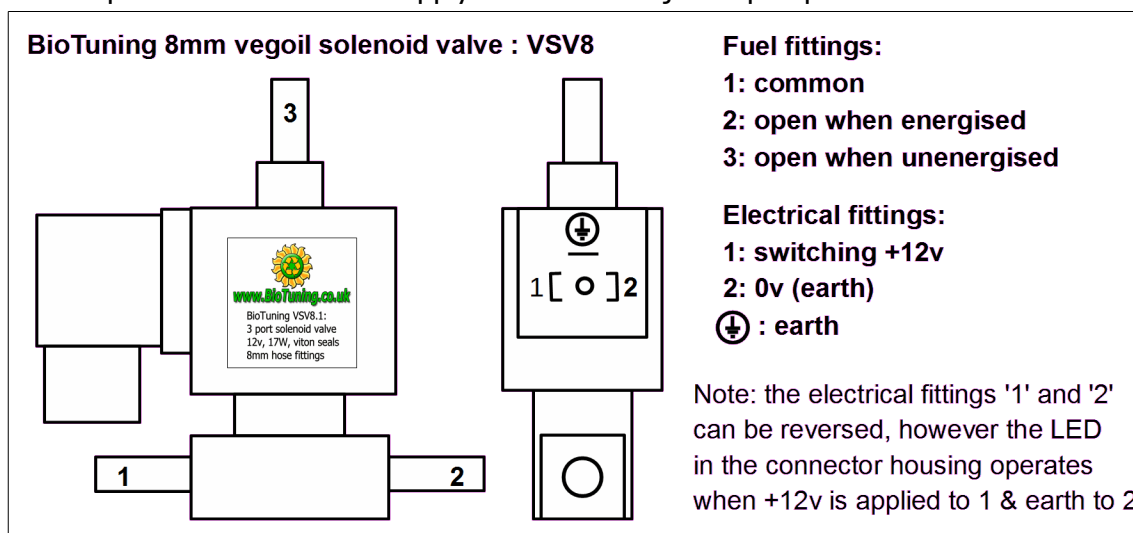

Figure 2. Valve fuel ports and wiring
- Locate the fuel supply hose that runs from the diesel filter to the injector pump. Divert this so that it runs from the diesel filter to fuel port number 3 (see Figure 2) of the supply valve, and from fuel port number 1 of the supply valve to the injector pump.